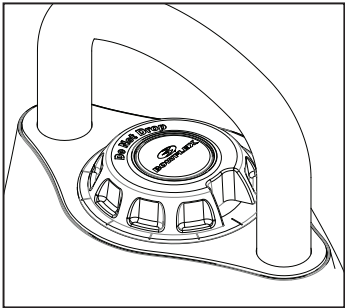

Figure 1
- 3. The weight increments range from 3.5 kg to 18 kg (8 to 40 lb) on the weight selection dial. To properly select a given weight (9 kg [20 lb] for example), rotate the adjustment knob until the Weight Selection Window is aligned with that number (20) on the weight selection dial.
- 4. After confirming the proper rotational function of the adjustment knob, turn the adjustment knob so that the number 8 (3.5) shows in the center of the Weight Selection Window (Fig.1).